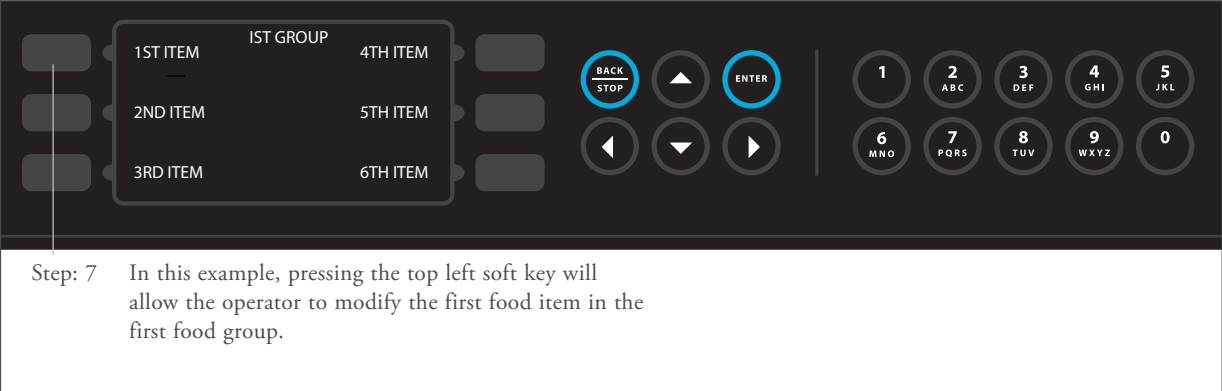

FIGURE 20: Modifying Recipes – Step 7
7. Select the food item to be modified (Figure 20).